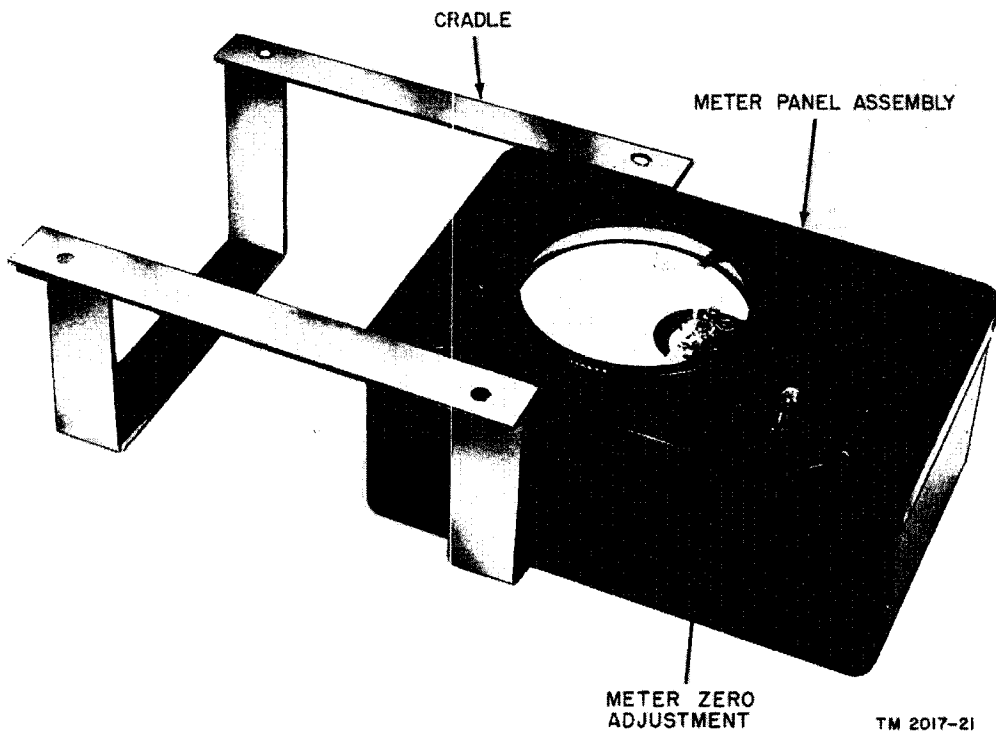

Figure 7. Test Set TS-26(\*)/TSM, meter panel assembly partly removed from its cradle.
40 and 41). On Test Set TS-26A/TSM, the meter zero-adjustment screw is located on the glass window of the meter (fig. 7).
*l.* To install the 4½-volt battery, slide the meter panel assembly from the cradle as shown in figure 7.
*r.* Slide the meter panel assembly into the cradle as shown in figure 7.
- (5) Place the pin of the black test lead in the L1 jack.
- (6) Place the pin of the red test lead in the L2 jack.
- (7) Turn the meter zero-adjustment screw (fig. 7) until the meter needle points to 0 on the VOLTS D. C. scale of the meter. *Keep the eye directly above the 0 when making this adjustment.*